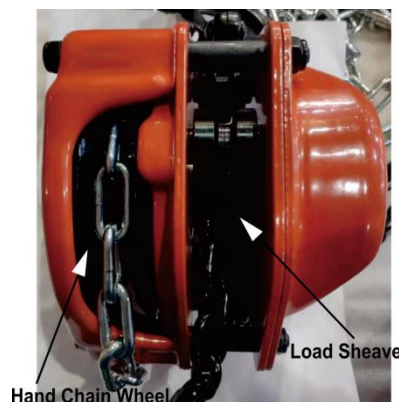

Figure 11
8. If installing entire new chain, insert the end of the hand chain into the groove at the top of the hand chain wheel (see Figure 11). Rotate the hand chain wheel and pull the chain through.
Install the new load chain onto the load chain sprocket as follows, referring to Fig. 11: